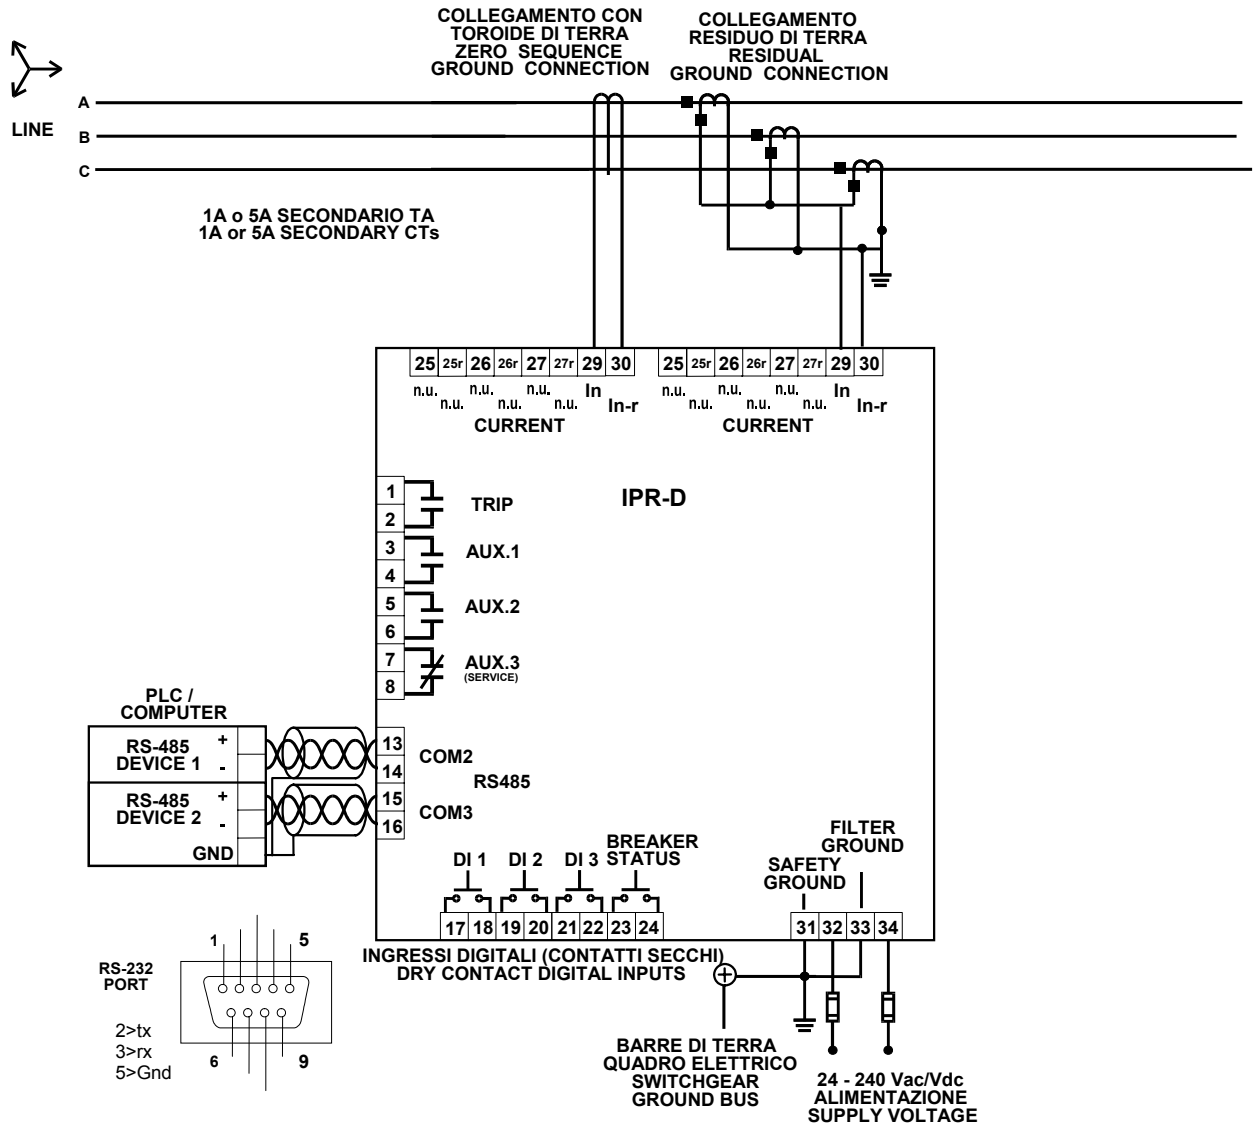

Figure 2.3 – Wiring diagram
- In Fig. 2.3 the relays contacts are represented in condition of no power supply.
The transformer providing a current that is proportional to the ground current must be connected to terminals from no. **29** to no. **30** [→ Fig. 2.3].
Normally IPR-D uses the “RESIDUAL GROUND CONNECTION” [→ Fig. 2.3] to sense ground current.
Observe correct polarity when connecting the CTs to the relay. Each CT should have the same orientation and the points identifying the magnetic directions must be connected as shown in Fig. 2.3.
Ground the shield at one point only [→ Fig. 2.3] to avoid ground loops.